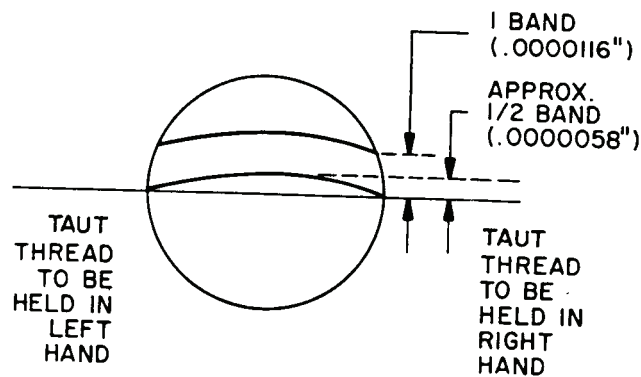

Figure 2. Distortion measurement.
- (2) Locate thread as shown in figure 2 and pull taut. Read and record deviation from straight line of fringes under monochromatic light.